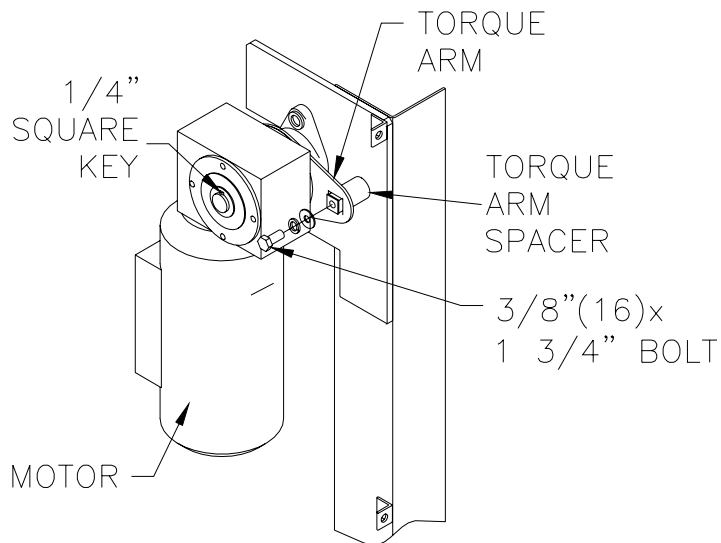

FIG. 8B
- **Tighten Set Screws on Output Shaft on both sides of Gearbox (Figure 8b).**